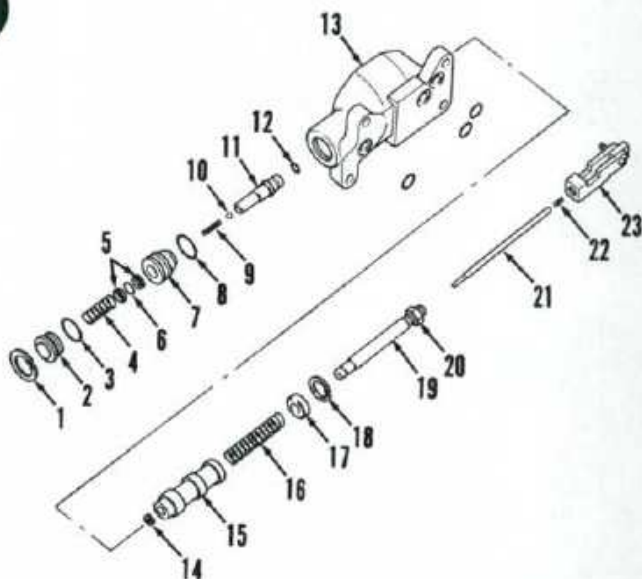

Fig. 165—Exploded view of the lift control valve.
To disassemble the control valve, refer to Fig. 165 and remove snap ring (1), plug (2) with "O" ring (3) and spring (4). Remove drop valve poppet with backup rings (5) and "O" rings (6 and 8), spring (9), ball (10) and drop valve spool (11) with "O" ring (12). Remove snap ring (18) and withdraw draft valve assembly (14 through 23) from valve body (13). Remove actuating rod (21) from draft valve rod (19). Clamp clevis (23) in a soft jawed vise and loosen locknut (20). Unscrew and remove clevis (23). Use a valve spring compressor to compress the spring, then note number of turns required and remove locknut. Carefully release pressure on the spring and remove collar (17) and spring (16) from spool (15). Remove retaining clip (14), then withdraw rod (19) with screw (22) from spool.